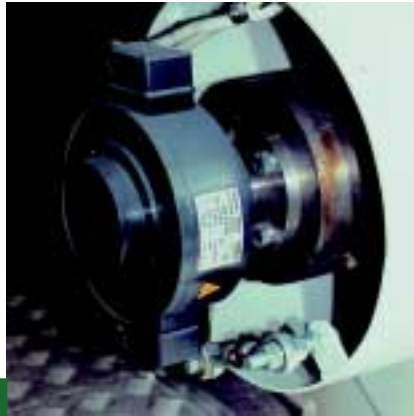

Figure 5: Redundant scanning, the HOG 16 on a 2,600 kW drive as example.
- Two **radially opposed scanning systems** scan a *common* incremental disk: **redundancy** (➔ Figure 5). This option can be incorporated on some Digital-Tachos.